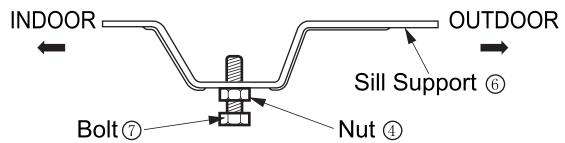

Fig. 3
3. Cut the window sash seal to the proper length. Peel off the backing and attach the Foam-PE to the underside of the window sash and bottom of window frame (Fig.3)
3. Loosely assemble the Sill Support⑥ using the parts . (Fig. 3)